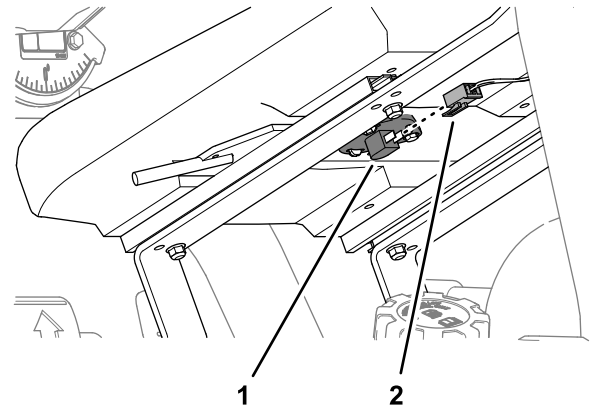

Figure 4
4. Remove the 2-socket connector from the terminals for the seat switch (Figure 4).